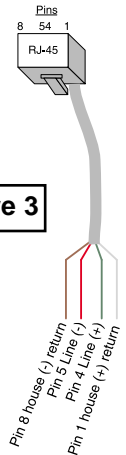

Figure 3
- 7.1 The security interface can be enabled to allow line seizure and dial out capability to most security systems. Connect the RJ31X cable (supplied w/security system) to the RJ45 "security" jack. Turn off "Line 1" on the test switch to activate the security line. Connect the terminals of the RJ31X cable as described in security system instructions. Refer to **Figure 3**.